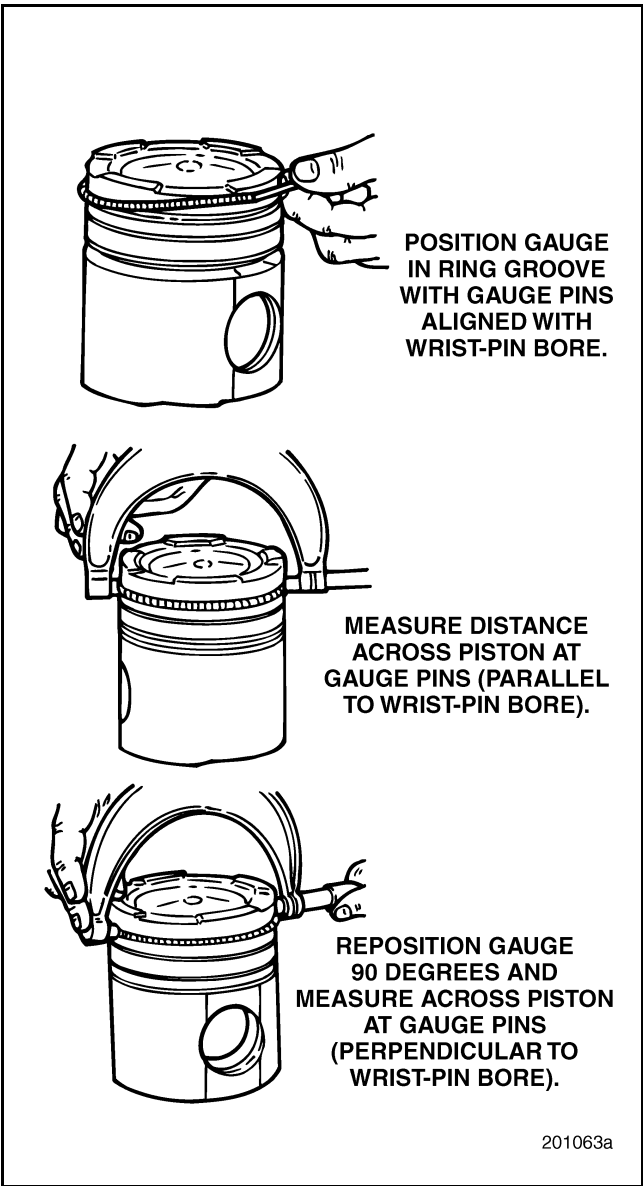

Figure 236 — Ring Groove Wear Measurement
2. Using a four- to five-inch micrometer, measure the distance between the outer edges of the two parallel pins. Check each compression ring groove in two locations: parallel and perpendicular to the wrist pin bore (Figure 236). Record both measurements.